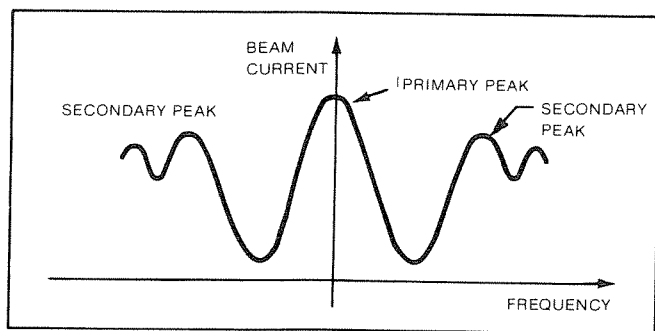

Figure 3-4. Beam Current and Applied Frequency
- i. Adjust C-FIELD control to top of maximum peak as indicated on BEAM I meter. See Figure 3-4 and NOTE below.
- f. Slowly adjust OSC FREQUENCY COARSE for the maximum BEAM I (primary peak) on CIRCUIT CHECK meter. (See *Figure 3-4*.) It is possible to peak the BEAM I on a secondary peak. Check the maximum by adjusting OSC FREQUENCY COARSE for a secondary peak on each side of the primary peak (see *Figure 3-4*). These secondary peaks will be smaller than the primary peak. (Note: Do not use OSC FREQUENCY X10-10 control for this adjustment.)